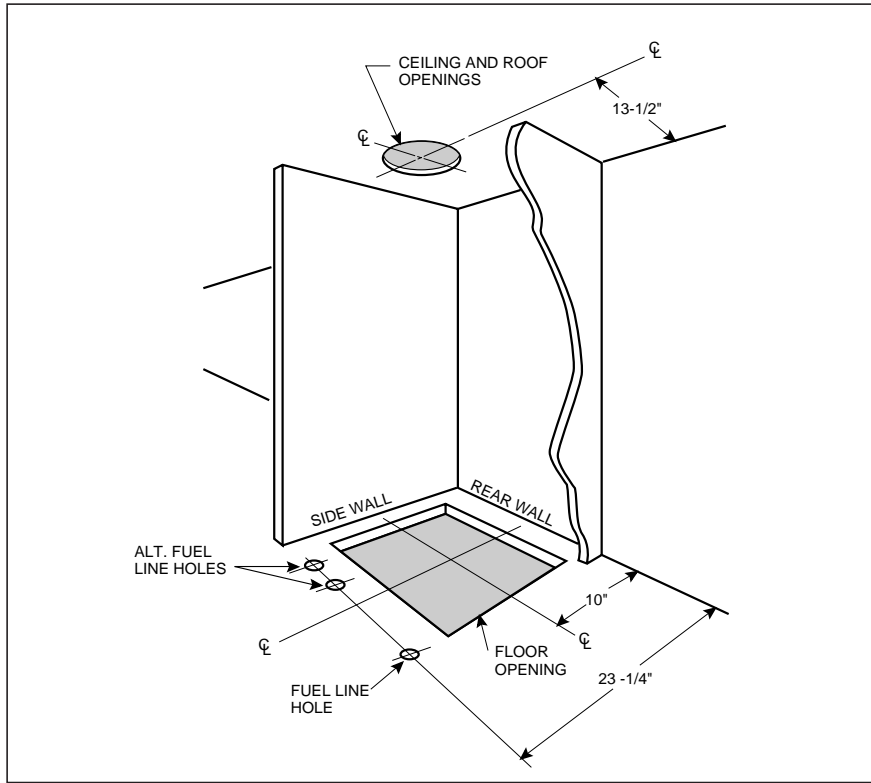

Figure 12. Closet or Alcove
Required floor, ceiling, and roof cut-out openings must be carefully located to avoid misalignment of the furnace and Roof Jack (see Figures 12 & 13). Installation procedures are suggested for typical furnace installations and need not be followed in the exact listed sequence.
- Locate center of fuel line hole, measured 23-1/4" from the rear wall and 6-5/8" to the left of center of the floor cut-out (See Figure 12) or